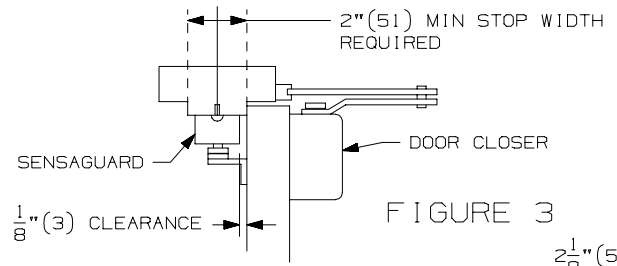

FIGURE 3
7. LEAVE A 1/8" GAP BETWEEN THE DOOR AND THE UNIT (SEE FIG.3)